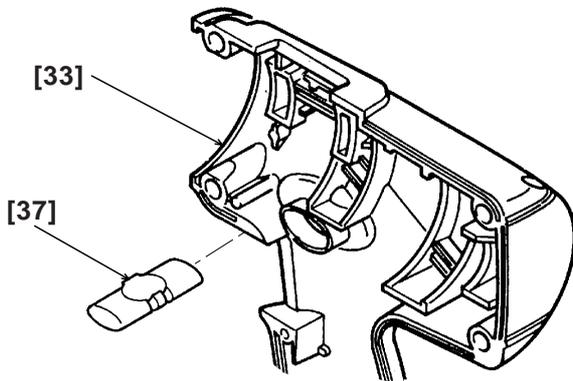

Fig. 10
(4) Installation of the reassembled state in step (3) into Housing (A) and (B) [33].
(a) Install the Pushing Button [37] into Housing (B) [33]. (See Fig. 10.)